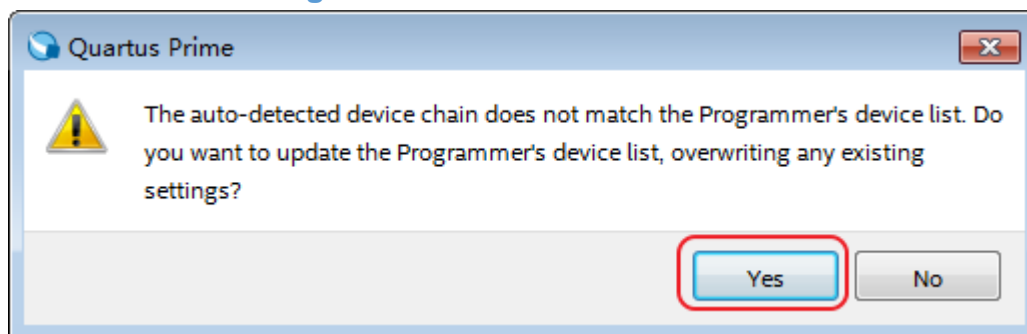

Figure 4-6 Updating the device
- You will see a CFI\_1Gb Flash detected on the JTAG chain. Press Yes to update the device list as shown in Figure 4-6.